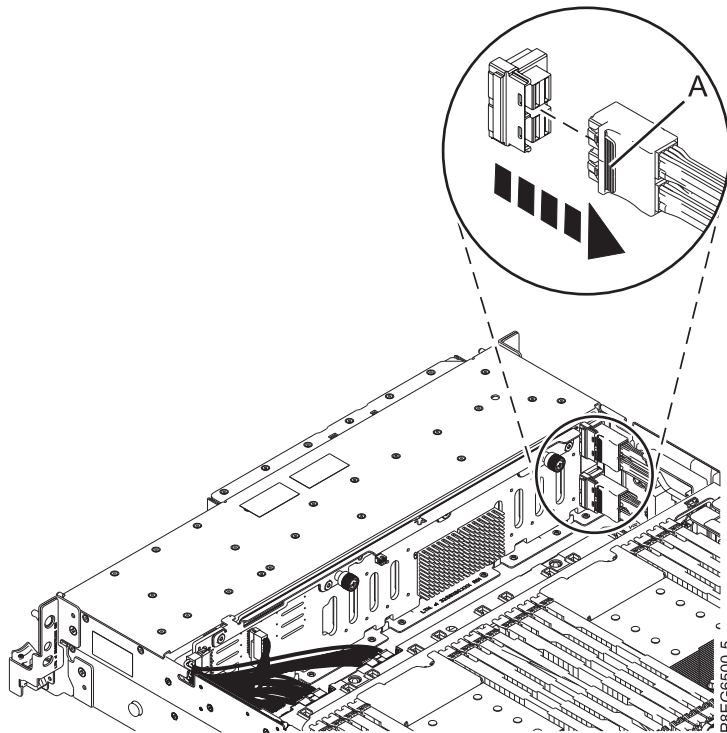

Figure 2. Unplugging the front SAS cable from the disk drive backplane
3. Label the front SAS cable that is attached to the SAS RAID internal adapter. Press the latch (A) and unplug the connector of this cable from the disk drive backplane, as shown in Figure 2. Leave the other end of this cable plugged in to the P1 connector of the SAS RAID adapter until directed to unplug it.